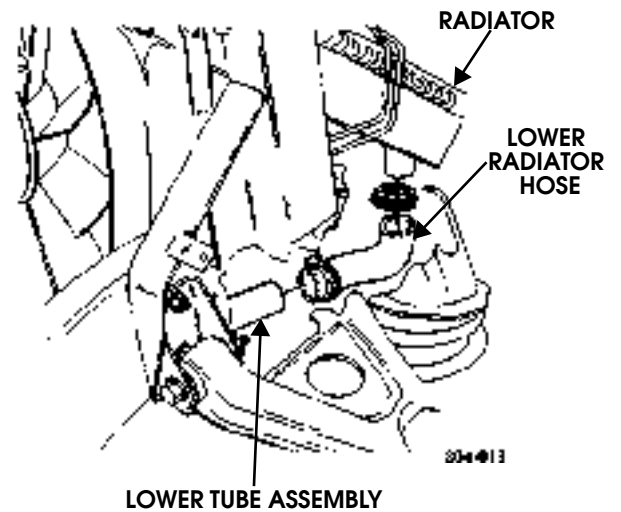

Figure 4-16: Lower Radiator Hose Location
2. Loosen clamps and remove lower radiator hose from radiator and lower tube assembly (Figure 4-16).
1. Secure lower radiator hose to lower tube assembly and radiator with clamps (Figure 4-16).